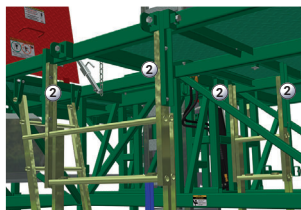

fig. 1.23
- 3- Remove the bolt assemblies holding the four vertical supports to the frame of the motorized unit (see "2" in fig. 1.23). Store the bolt assemblies properly for later use.